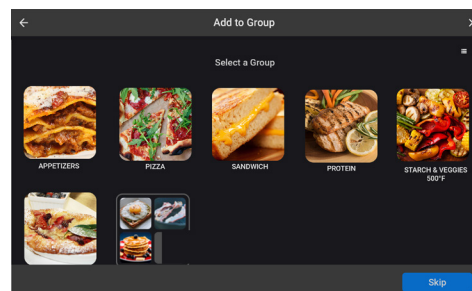

Figure 37: Select Groups to Place Recipe Into
5. Select a recipe (or recipes) to add to the group (Figure 37, below).